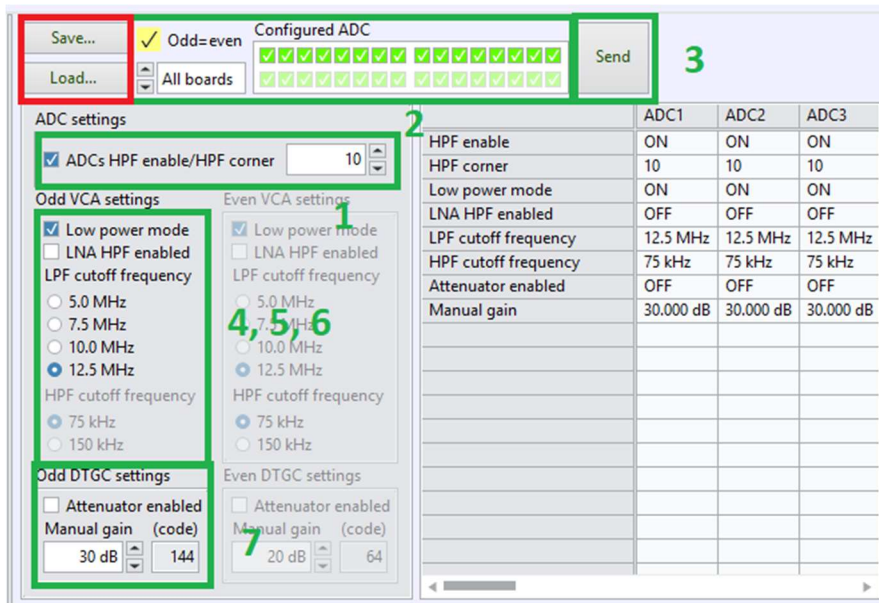

Figure 5: Use of ADC table.
3. In order to maximize analog BW uncheck *Low power mode* on ADC tab and choose 25 MHz *LPF cutoff frequency*, Figure 5 (4 and 5).